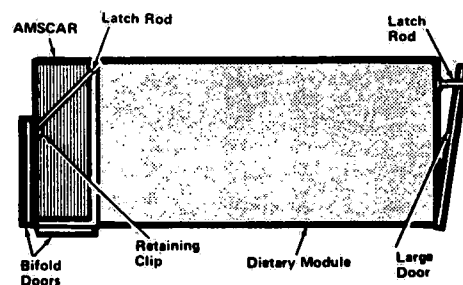

Figure 3-1. POSITIONING MODULE ON AMSCAR.
1. Open doors approximately 270°. Lift door latch rods (Fig. 3-1) and pivot them over top of doors. Allow rods to drop, thus hooking doors and holding them open.
2. Open large door approximately 270° (Fig. 3-1). Lift door latch rod and pivot it over top of door. Allow rod to drop thus hooking door and holding it open.
3. Open bifold doors to position shown in Figure 3-1. Lift latch rod and swing it to a position above center door retaining clip. Allow the rod to drop and engage in retaining clip.